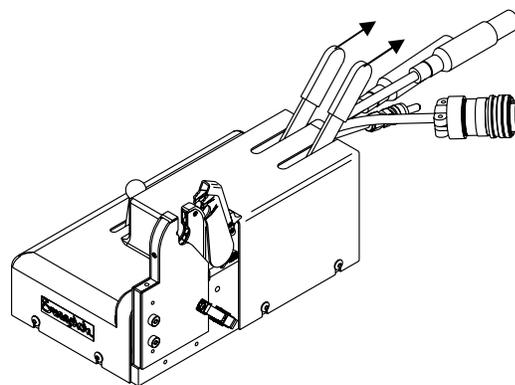

Figure 13 Pushing Actuator Handles to the Open Position
4. Open the side plates by pushing each actuator handle back to the open position. See Figure 13